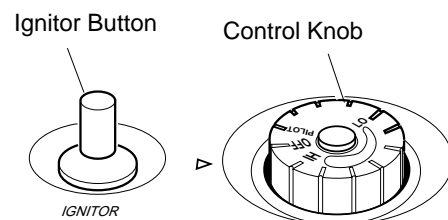

Figure 16 - Control Knob In The OFF Position
3. Turn control knob clockwise to the OFF position (see Figure 16).
4. Wait five (5) minutes to clear out any gas. Then smell for gas, including near the floor. If you smell gas, **STOP!** Follow "B" in the safety information. If you don't smell gas, go to the next step.
5. Turn control knob counterclockwise to the PILOT position. Press in control knob for five (5) seconds (see Figure 16).